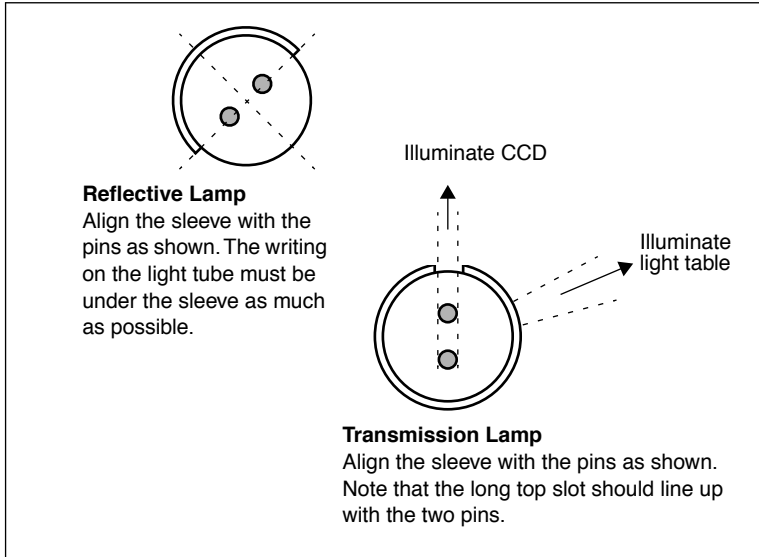

Figure 8: Sleeve alignment. The relative position of the two lamps is approximately as seen from the left side of the scanner.
Some times, the sleeves are glued into place when the scanner is first shipped from the factory, but when you replace a light tube, the sleeve will not be glued; it will be tight so that it can not slip freely, but you will be able to rotate it manually if you try. The correct orientation of the sleeves is shown in Figure 8.
5. Install a new lamp following the reverse of the procedure you used to remove it. Make sure the sleeve is aligned correctly with the scanner as shown in Figure 8. Rotate the lamp and/or adjust the sleeve as necessary.